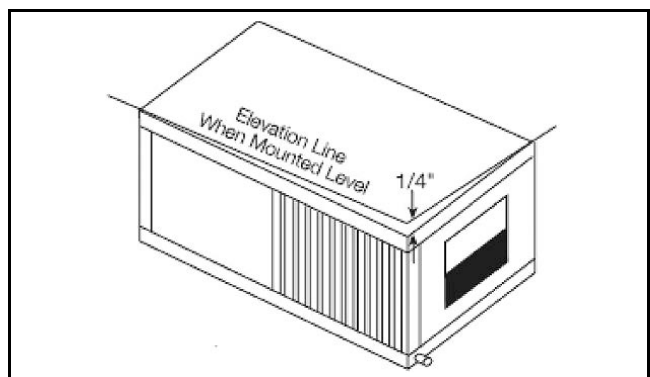

Fig. 5 Pitched Unit
**NOTICE:** HZ units must be installed pitched 1/4" towards the condensate drain connection in both directions to facilitate condensate removal. (See Fig. 5.)